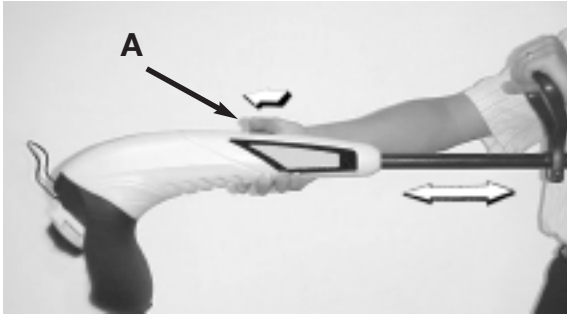

Fig. 6
2. Push shaft locking button (A) forward and move handle forward or backward to desired length. (Fig. 6)